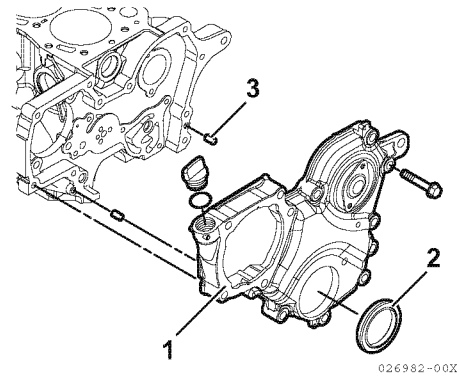

Figure 6-58
- Remove the seal (**Figure 6-58, (2)**) from the gear case cover (**Figure 6-58, (1)**).